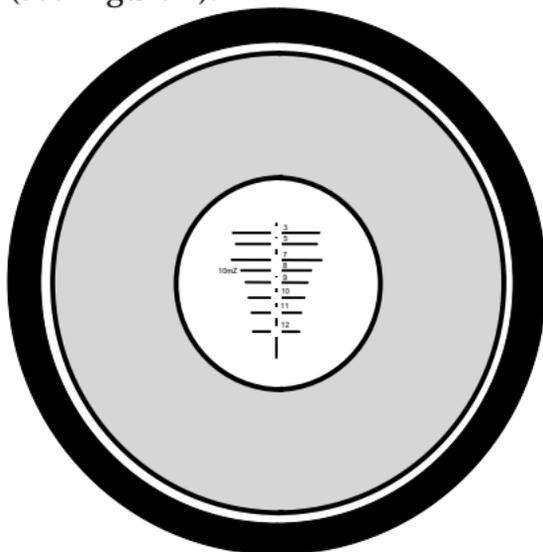

**Figure 1. Maximum Field of View, Correct Eye Relief.**
3. Tighten the torque limiting knob (1) clockwise until two clicks are heard. Ensure that the mount is securely fastened before commencing eye relief adjustment.
5. Open rear lens cover (2) and front lens cover (3). Turn each cover inside out to stow the lens covers while the telescope is being used.
- a. If the target scene fills the telescope to provide the maximum field of view, the correct eye relief has been attained (see Figure 1). No further repositioning of the telescope on the Picatinny rail is required.
- a. Loosen the torque limiting knob (1) and move the telescope in the appropriate direction (forward or backward) until you achieve the correct eye relief.
- b. Repeat steps 1 through 5 until the correct field of view is obtained as shown in Figure 1.